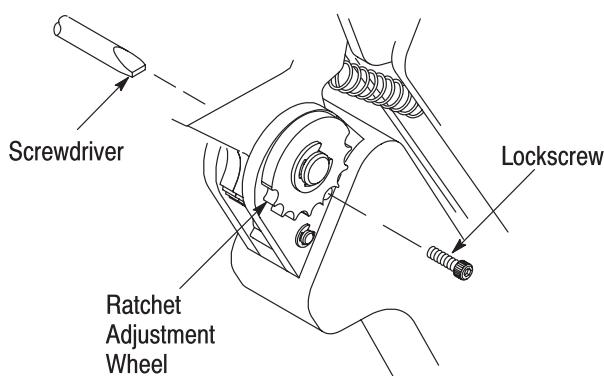

Figure 4
5. CRIMP HEIGHT ADJUSTMENT (Refer to Figure 4)